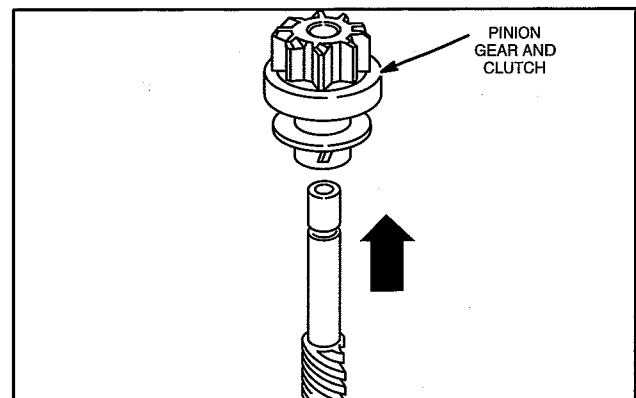

Fig. 55 – Removing Pinion And Clutch
9. Remove pinion gear and clutch assembly, Fig. 55. Clean and inspect helix. If helix is damaged, replace armature.